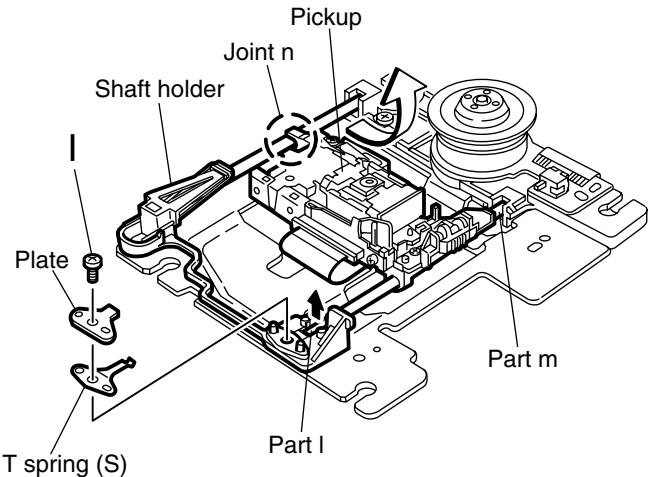

Fig.16
■Removing the pickup (See Fig.16 and 17)
1. Remove the screw **I** attaching the T spring (S) and the shaft holder. Remove also the plate.